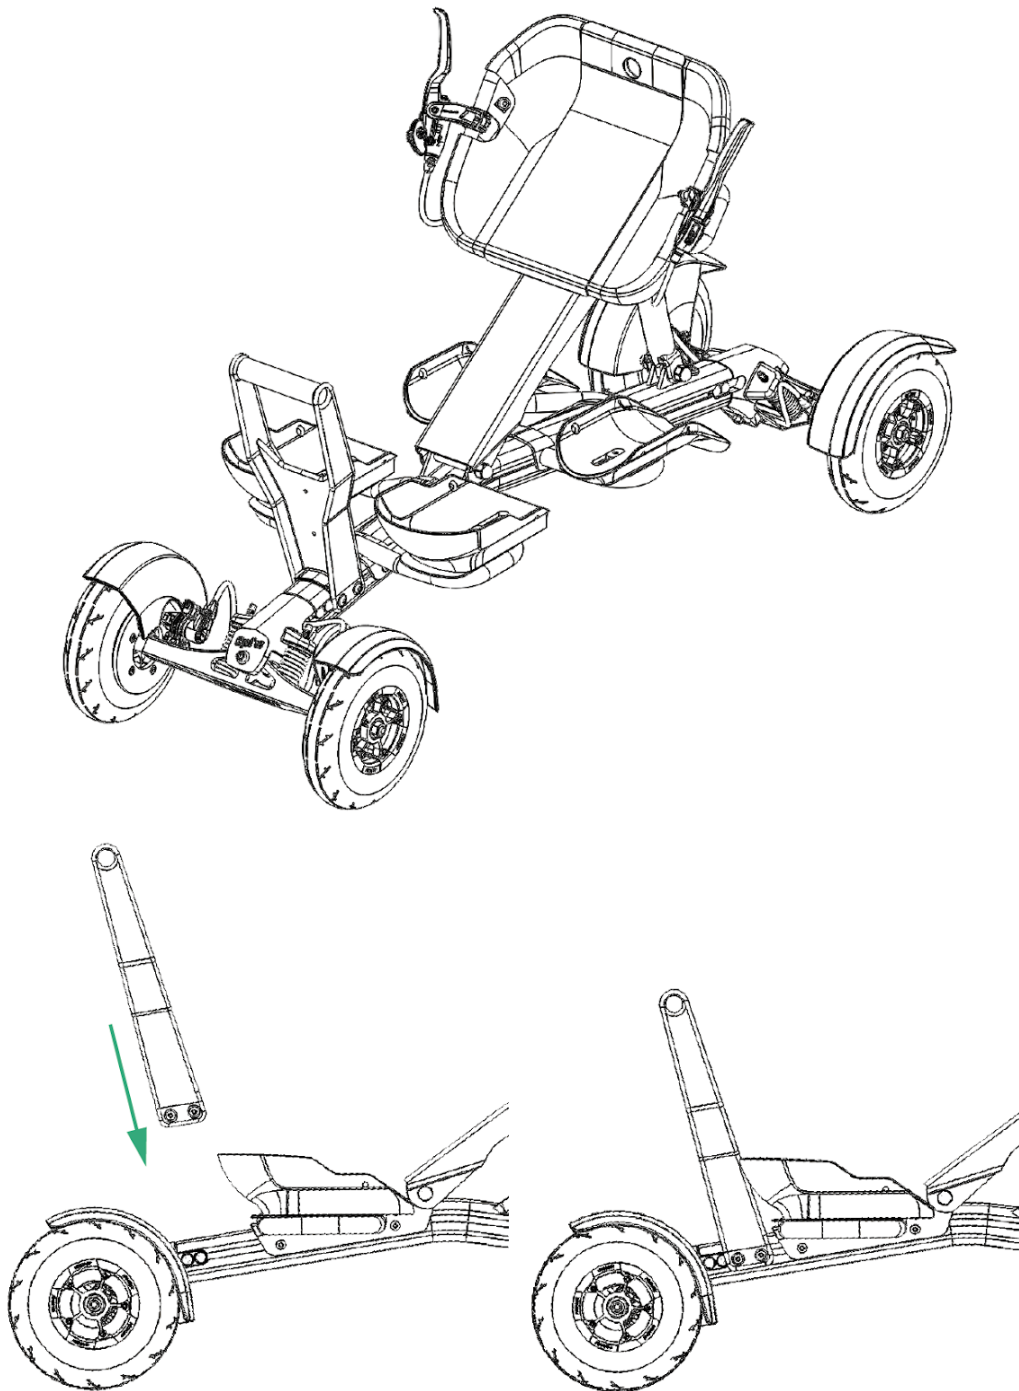

Figure 3.7.1 - Additional Equipment: Support Handle
- Some people might have difficulties controlling their core-muscles, especially when leaning their body forward too much. This can lead to the upper body falling forward when in a kneeling position. If this is an issue, Spike can be equipped with a handle for easy gripping when in need to support the weight of the upper body (see figure 3.7.1)